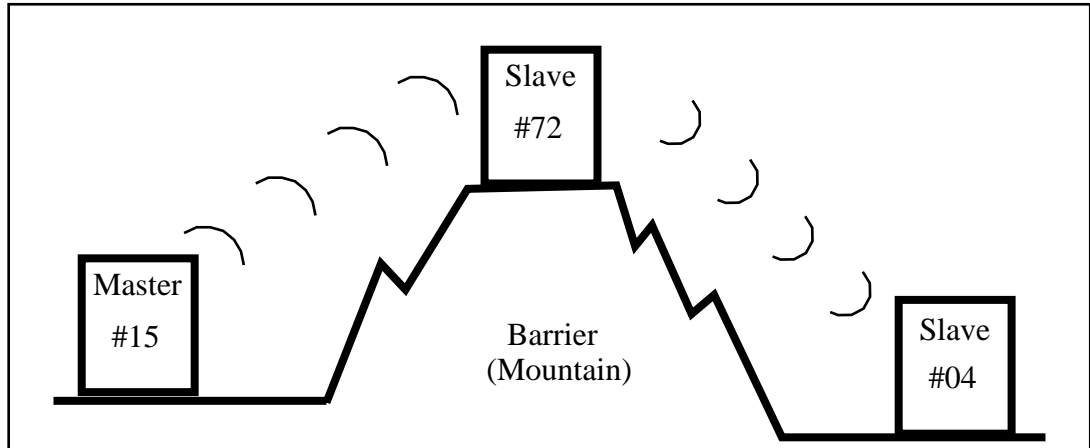

Figure 16-2 RNIM Repeater Example
Figure 16-2 displays an RNIM Master (15) on one side of a mountain, a Slave (04) on the other side of the mountain, and a Slave (72) at the top that can communicate with the other two. If a source on the Master's network (16) wants to send a READ to a PLC (87) on the Slave's network on the other side of the mountain, the route would be: 16, 15, 172, 4, 87.